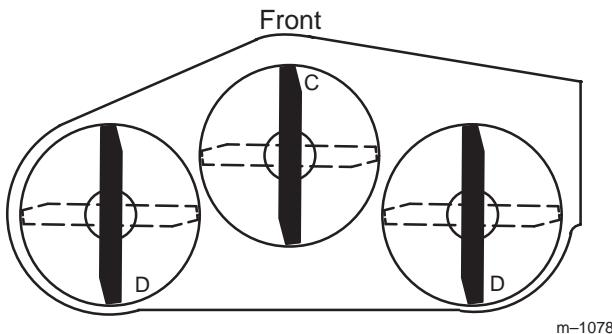

Figure 13
- Position one blade front-to-rear (Fig. 13). Measure at **C** and either **D** location (Fig. 13) from a level surface to the cutting edge of the blade tips (Fig. 14).